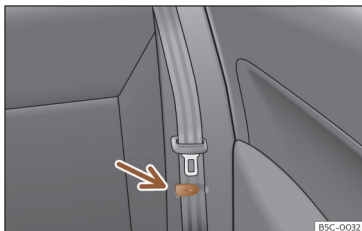

Fig. 113 Rear seat: clip to hold the seatbelt in place.
- Place the side seat belts in the trim clip >>> **Fig. 113**.